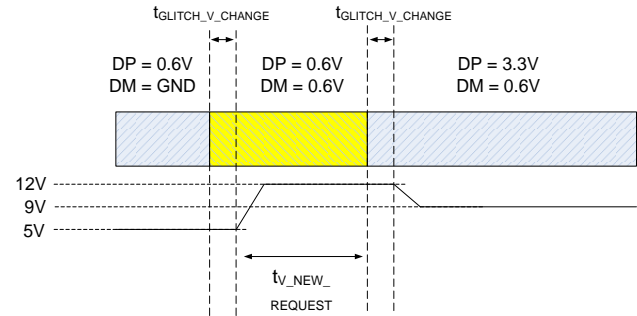

Figure 10: QC Mode Transition
If the downstream device supports QC specifications, then the device can require a V_{OUT} above 5V by communicating with MPQ4228-Q's DP and DM pins (see Table 2). If a higher USB V_{BUS} is required, then the ADJ pin needs to be used to adjust the buck V_{OUT} . The ADJ pin is typically connected to the feedback (FB) pin of the upstream voltage converter. After the handshake, ADJ adjusts V_{OUT} to 9V to 12V or any other voltage step by step (200mV/step). In smart controller mode, only one ADJ pin can set a high voltage that meets QC specifications. The V_{OUT} transition is smooth, and does not have any voltage undershoot/overshoot. Figure 10 shows the mode transition.